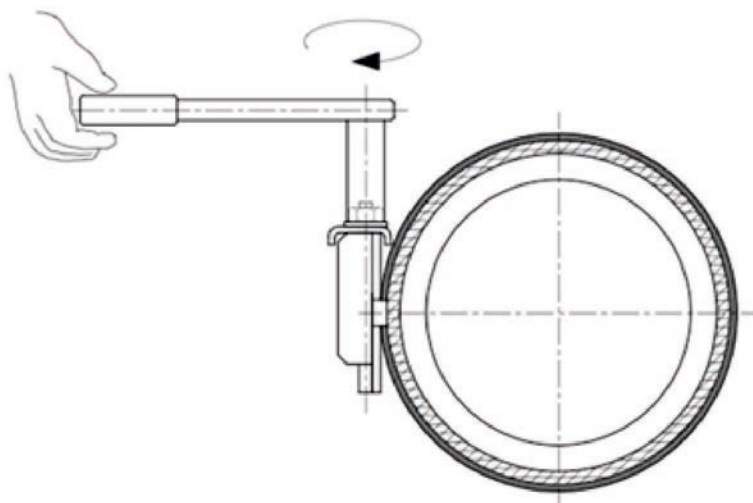

Fig. 16-10 Tightening the nuts
10. Before tightening the tapping saddle, make sure that the pipe sensor is not tilted and can be pushed further into the pipe. Tighten all nuts evenly with the aid of a spanner (300 mm long) or torque spanner (Fig. 16-10).